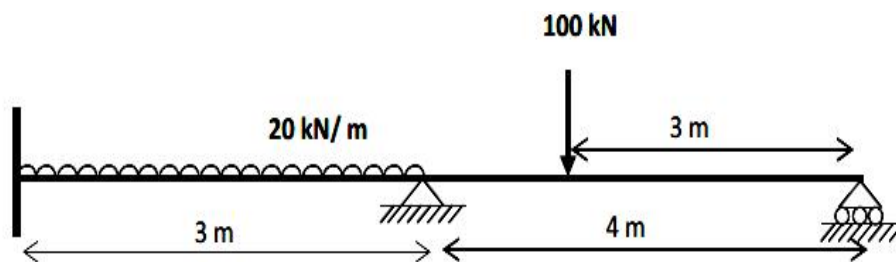

Fig.4
7. Analyse the continuous beam shown in Fig.4 using stiffness method and draw the bending moment diagram. Assume constant EI throughout the beam.